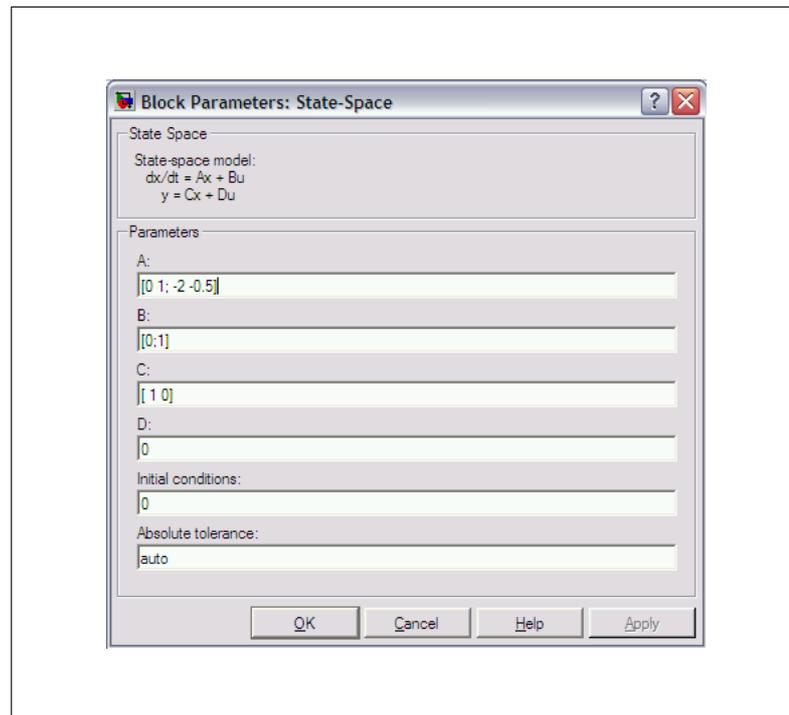

Figure 2: Setting State-space parameters
- 6 Double click on the State-space block to define the parameters as in Figure 2.